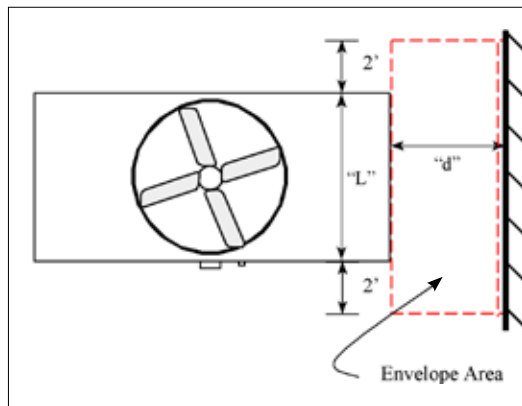

Figure 3a. Plan View of Unit Adjacent to Wall
2. **Air Inlet Requirements:** Should it be necessary to install a unit with the air intake facing a wall, provide at least distance “d” between the air intake and the wall, as illustrated in **Figures 3a** and **3b**.
The envelope area as illustrated on **Figures 3a** and **3b** is  $[(L + 2 + 2) * d] + 2(H+h) * d]$ , where: